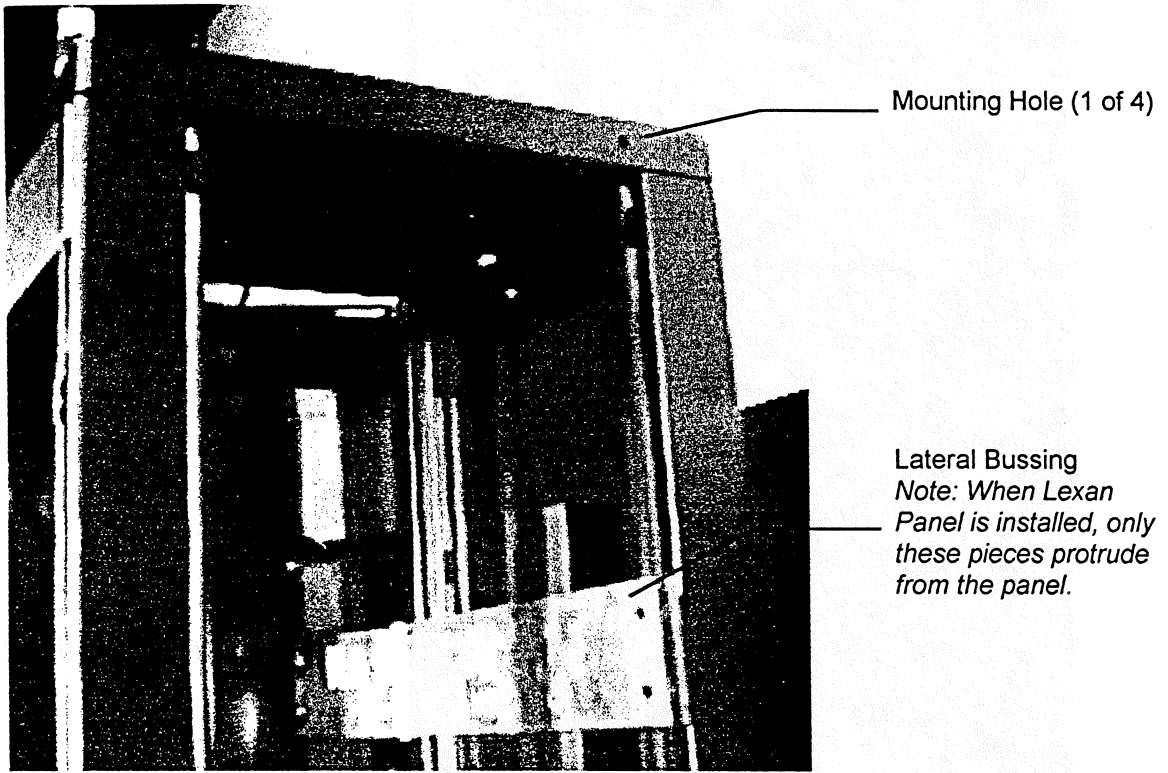

Figure 3: Typical Lateral Bussing, Side View
2. Verify that any protruding bussing lines up with its mating part and that the black Lexan panels are completely in place to seal the opening between the racks. Slide the rack sections together. See Figure 3.